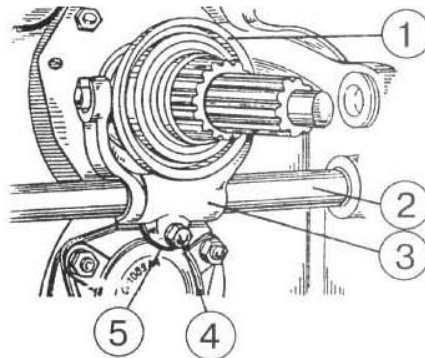

Figure 4.24
- a) unscrew bolt 4 (Figure 4.24) for yoke fastening;